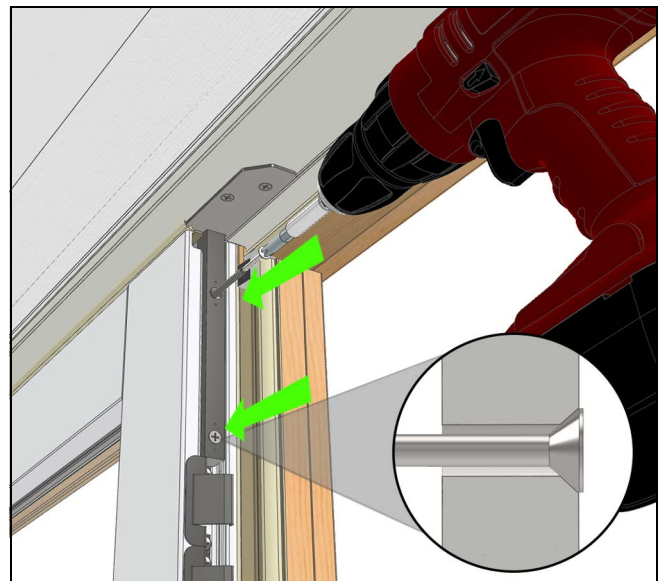

Figure 12
4. Install the 2-1/2" stainless flat head screw into the hole left by removing the panel screw. Fasten until it sits flat with the lock bar face. Drive another 2-1/2" stainless screw into the other hole until it sits flat with the lock bar face. See Figure 12.